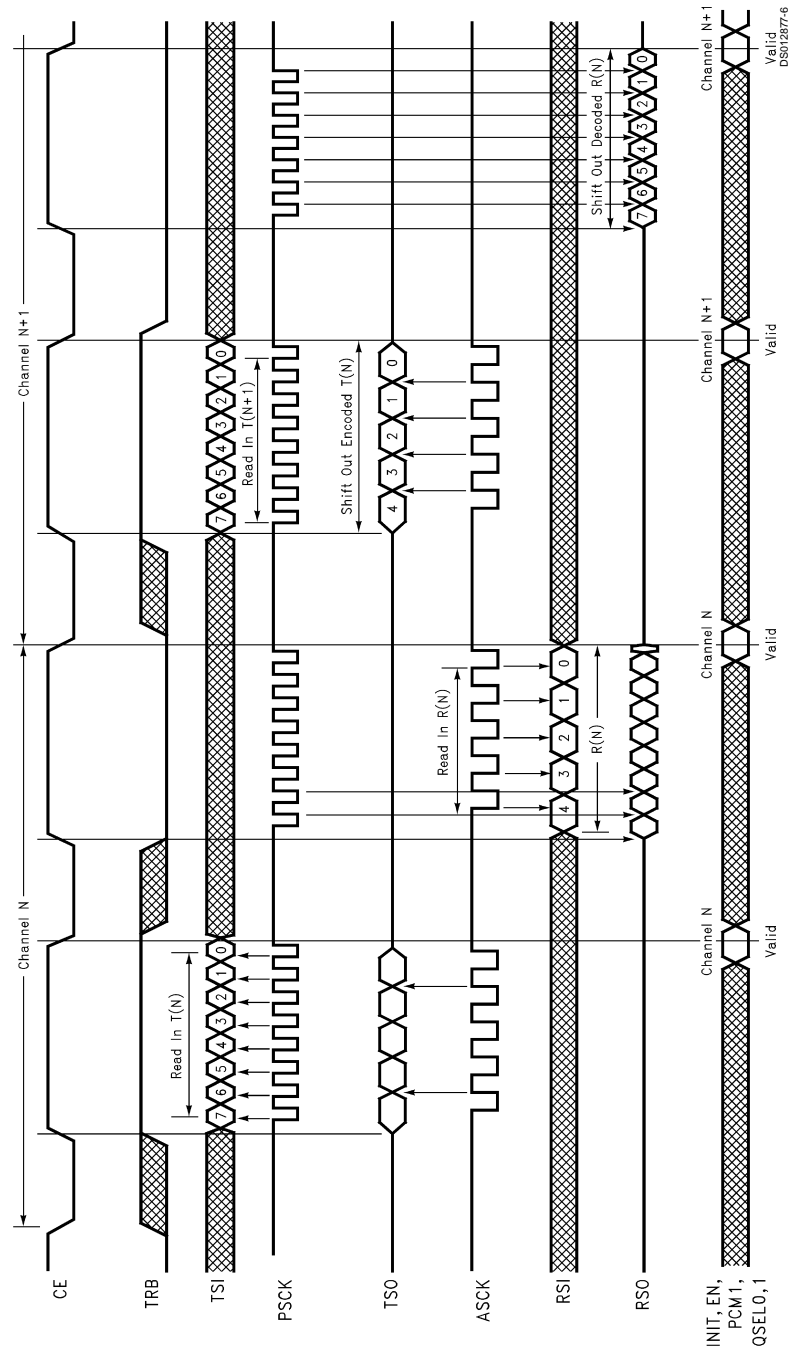

FIGURE 4. Full Duplex Timing Diagram (40 kbps ADPCM mode)
*Figure 4* shows the full duplex timing diagram for the 40 kbps mode. For the 32, 24 and 16 kbps modes only four ASCK low pulses are needed while CE is high.